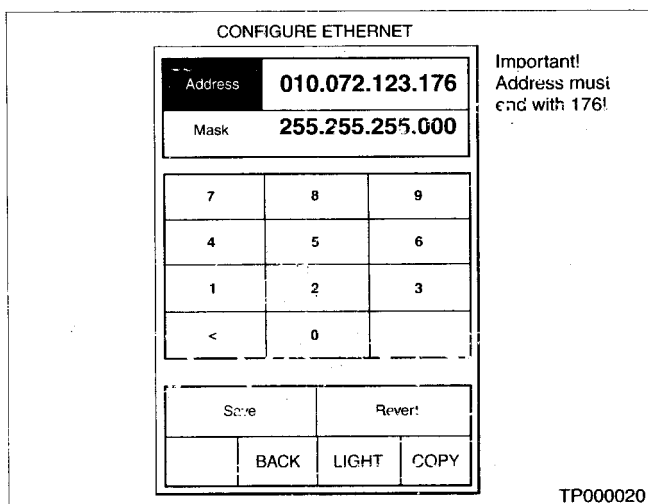

Figure 5
- F. Touch the Address number on the CONSULT-II screen (titled "Configure Ethernet"). A numeric keypad will appear (see Figure 5).
**NOTE:** The IP Address for the ASIST PC you are working on will be different from the Address shown in Figure 5.